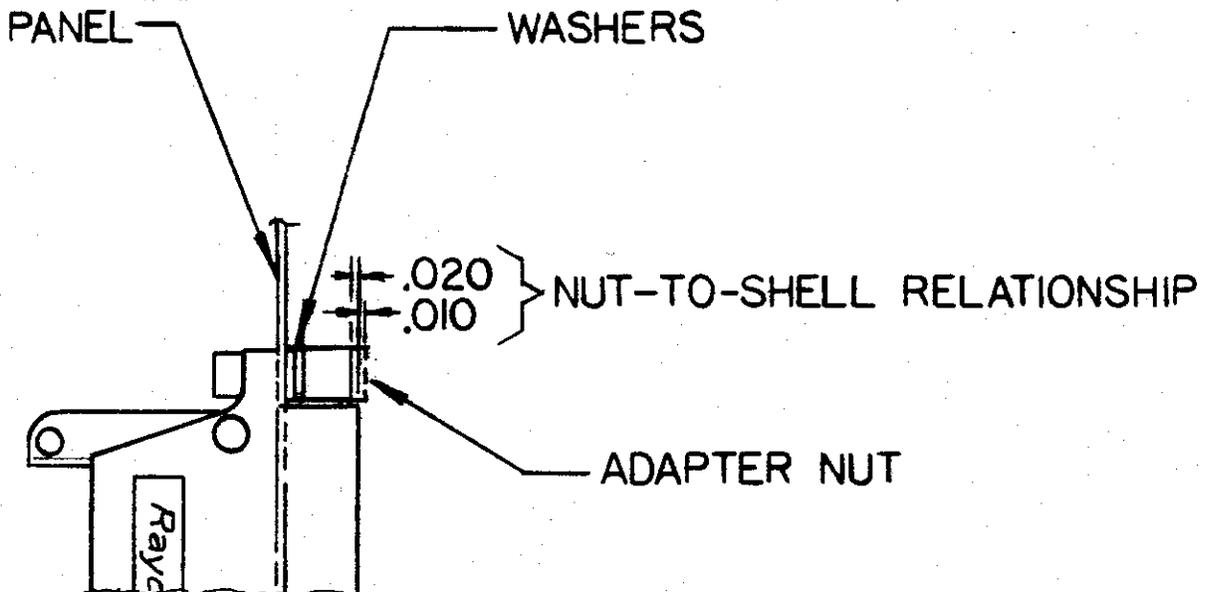

Figure 5-12. Panel Mounting Detail
1. All receptacle shells can be back mounted on panels with a maximum thickness of 0.103 inch (2.6 mm) (Figure 5-12).
2. Mount the receptacle shell as shown in Figure 5-12, using the required number of washers.
3. Make sure that the front surface of the adapter nut is flush with the front surface of the shell within +0.010 inch (0.25 mm), -0.020 inch (0.50 mm) (see Figure 5-12).